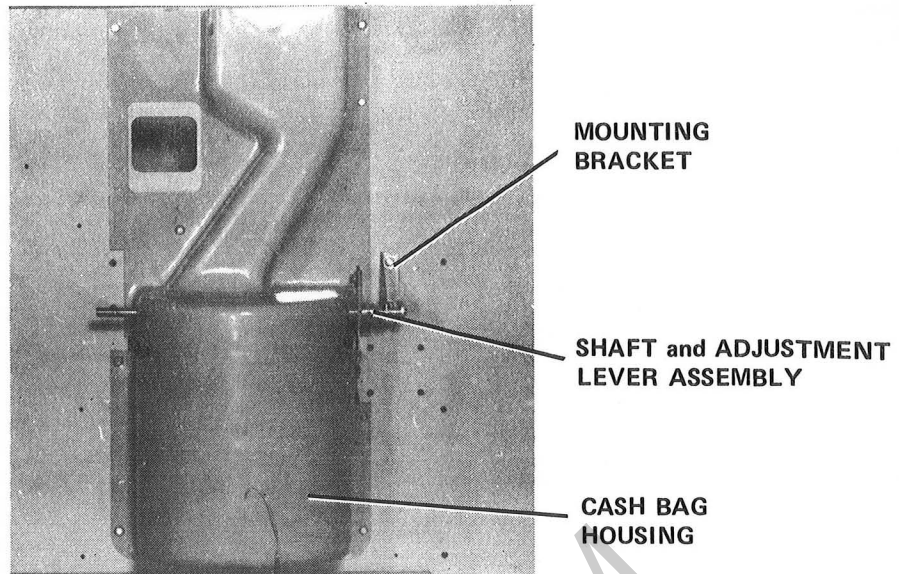

Figure 4.
17. Reinstall Cash Bag Housing in Phonograph Cabinet as shown in Figure 4.
19. Install shaft of Shaft and Adjustment Lever Assembly through holes in Cash Box Housing as shown in Figure 4.
20. Secure Mounting Bracket of Shaft and Adjustment Lever Assembly in Phonograph Cabinet with two Screws, Part No. 76267-21, as shown in Figure 4.